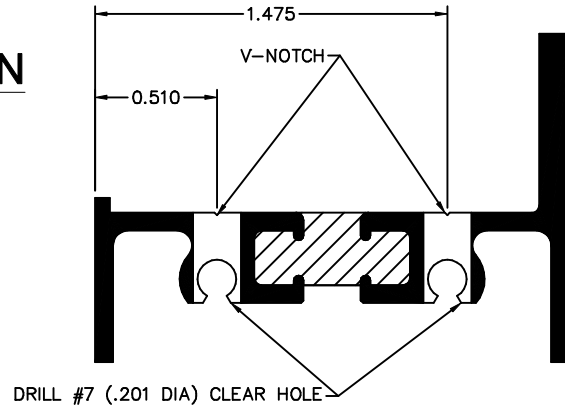

FIGURE 1
1. DRILL CLEARANCE HOLES PER FIGURE 1.